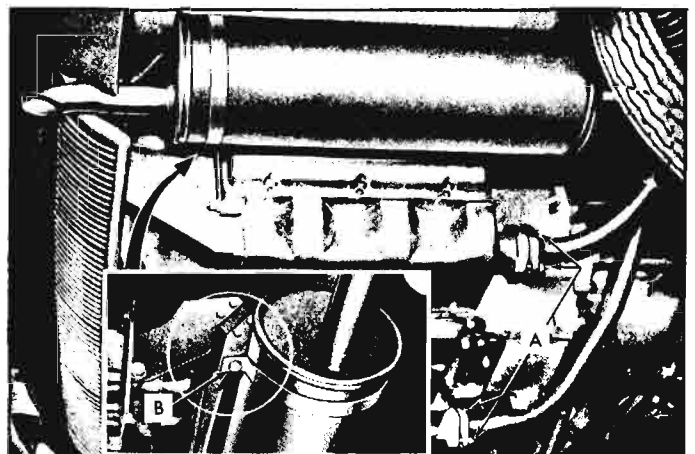

Fig. 9-46—Exhaust System and Mounting
The exhaust system on all Corvairs is a single unit which includes the exhaust pipes, muffler and tail pipe (fig. 9-46). The exhaust pipes are packing flange connected to the exhaust manifolds. Both pipes turn towards the right side of the vehicle, combine into a single pipe and thence into the muffler. The muffler is located to the right of the engine and is attached by means of a bracket to the engine. The close proximity to the engine helps reduce condensation problems and contributes to longer muffler life. The flanges at the exhaust manifolds and the bracket at the engine comprise the entire exhaust system mounting.
1. Remove the four mounting nuts "A", Figure 9-46.
2. Remove bolt "B", Figure 9-46.